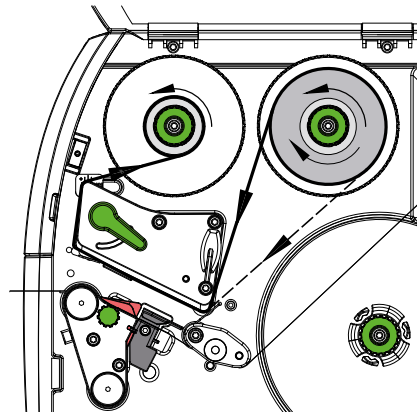

Figure 14 Transfer ribbon feed path
2. Turn lever (6) counterclockwise to lift the printhead.
3. Slide ribbon roll (1) onto the ribbon supply hub (2) so that the color coating of the ribbon faces downward when being unwound.
5. Hold ribbon roll (1) firmly and turn knob on ribbon supply hub (3) counterclockwise until the ribbon roll is secured.
6. Slide ribbon core (4) onto the ribbon take-up hub (5) and secure it in the same way.
7. Guide ribbon through the print unit as shown in Figure 14.
8. Secure starting end of ribbon to the ribbon core (4) with adhesive tape. Ensure counterclockwise rotation direction of the transfer ribbon take-up hub here.
9. Turn ribbon take-up hub (5) counterclockwise to smooth out the feed path of the transfer ribbon.
10. Turn lever (6) clockwise to lock the printhead.